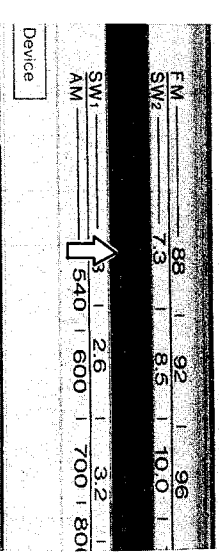

Figure 40-1
2. Turn the tuning control knob driving shaft fully clockwise, and adjust the dial pointer to come into "0" position of the dial scale plate. See Fig. 40-1.